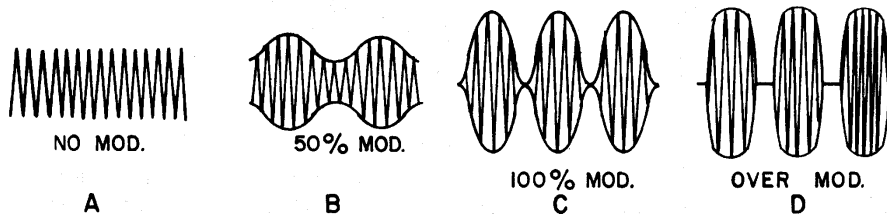

FIGURE 4, MODULATION WAVE PATTERNS
- 2) Connect an oscilloscope to the 10 db, 50 ohm pad as shown in the Test Setup Diagram. Key the transmitter, do not talk into the microphone, and obtain a carrier wave pattern as shown in Fig. 4, Pg. 15.
- 2) Connect an oscilloscope to the 10 db, 50 ohm pad as shown in the Test Setup Diagram. Key the transmitter, do not talk into the microphone, and obtain a carrier wave pattern as shown on Figure 4.